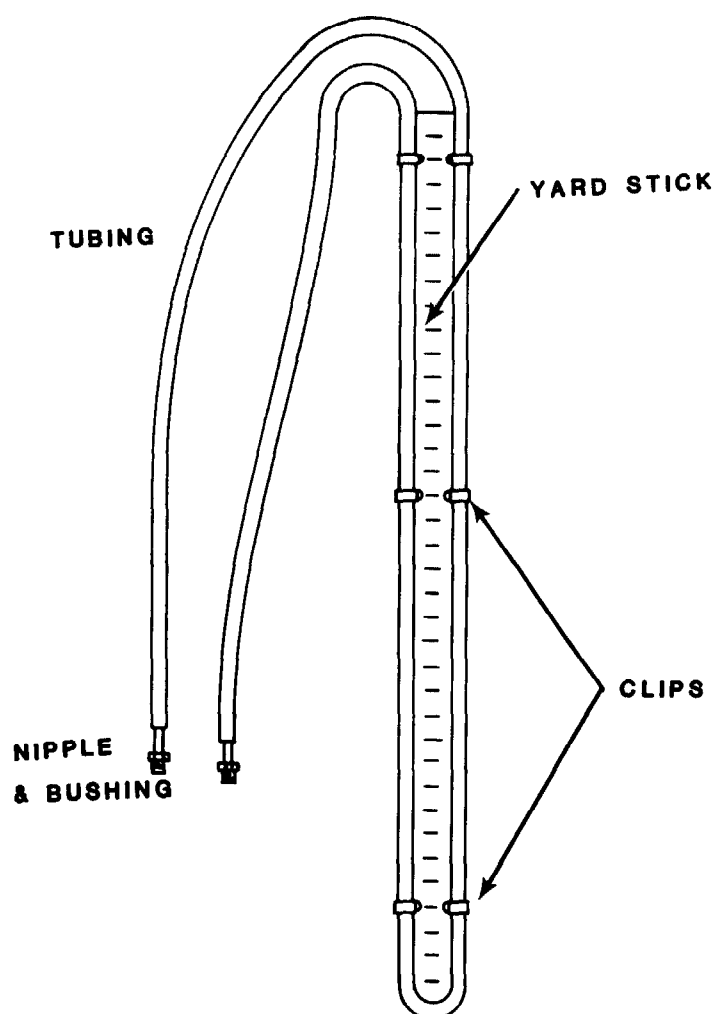

FIGURE B-5
Water Manometers	36 inch - 4 ea. with 1/4 inch NPT fittings (see Figure B-5)
- e) Water Manometer Design (Figure B-5)